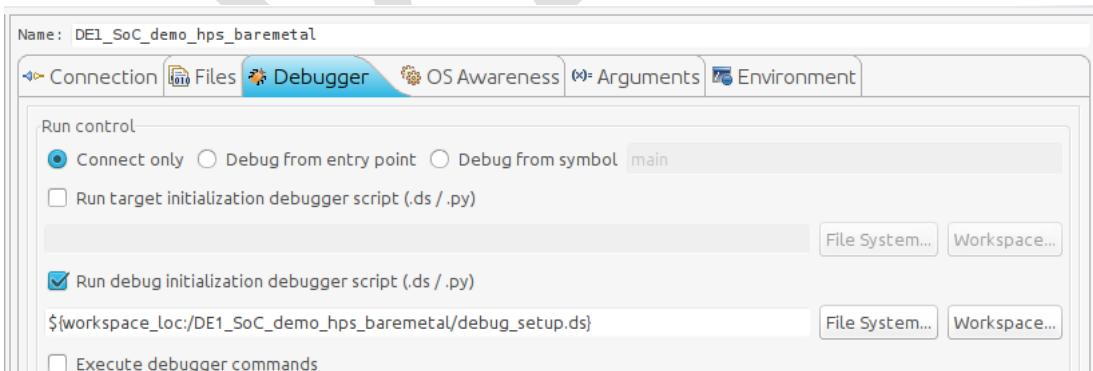

Figure 8-31. Debug Configuration "Debugger" Tab
- Enable the “Run **DEBUG** initialization debugger script (.ds / .py)” checkbox. Set the debug script to the one we defined for the project in 8.4.2.3.2.2. You should have something similar to Figure 8-31.